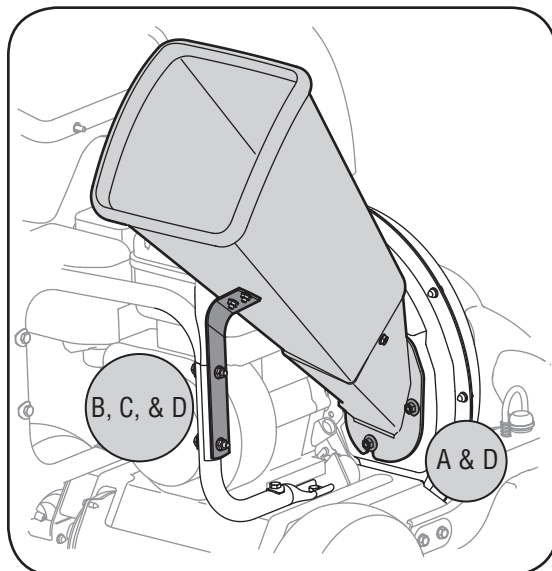

Figure 5
5. a. Place the chipper chute over the weld studs keeping the slotted side towards the bottom. Loosely secure with the three hex nuts and bell washers that were removed earlier. Do not fully tighten the hex nuts at this point in the assembly. See Figure 5.
c. Replace the hex bolts, saddle washers and flange nuts to affix the support bracket to the handle assemblies. See Figure 5.